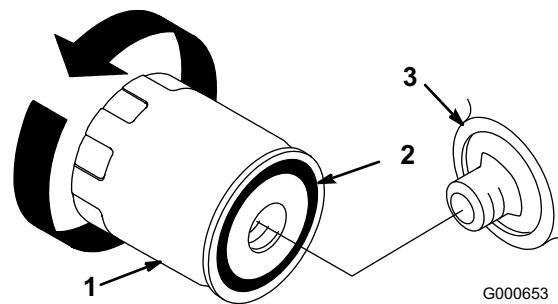

Figure 22
7. Remove the old filter and wipe the filter adapter (Figure 22) gasket surface.
10. Apply a thin coat of new oil to the rubber gasket on the replacement filter (Figure 22).
11. Install the replacement oil filter to the filter adapter. Turn the oil filter clockwise until the rubber gasket contacts the filter adapter, then tighten the filter an additional 1/2 turn (Figure 22).